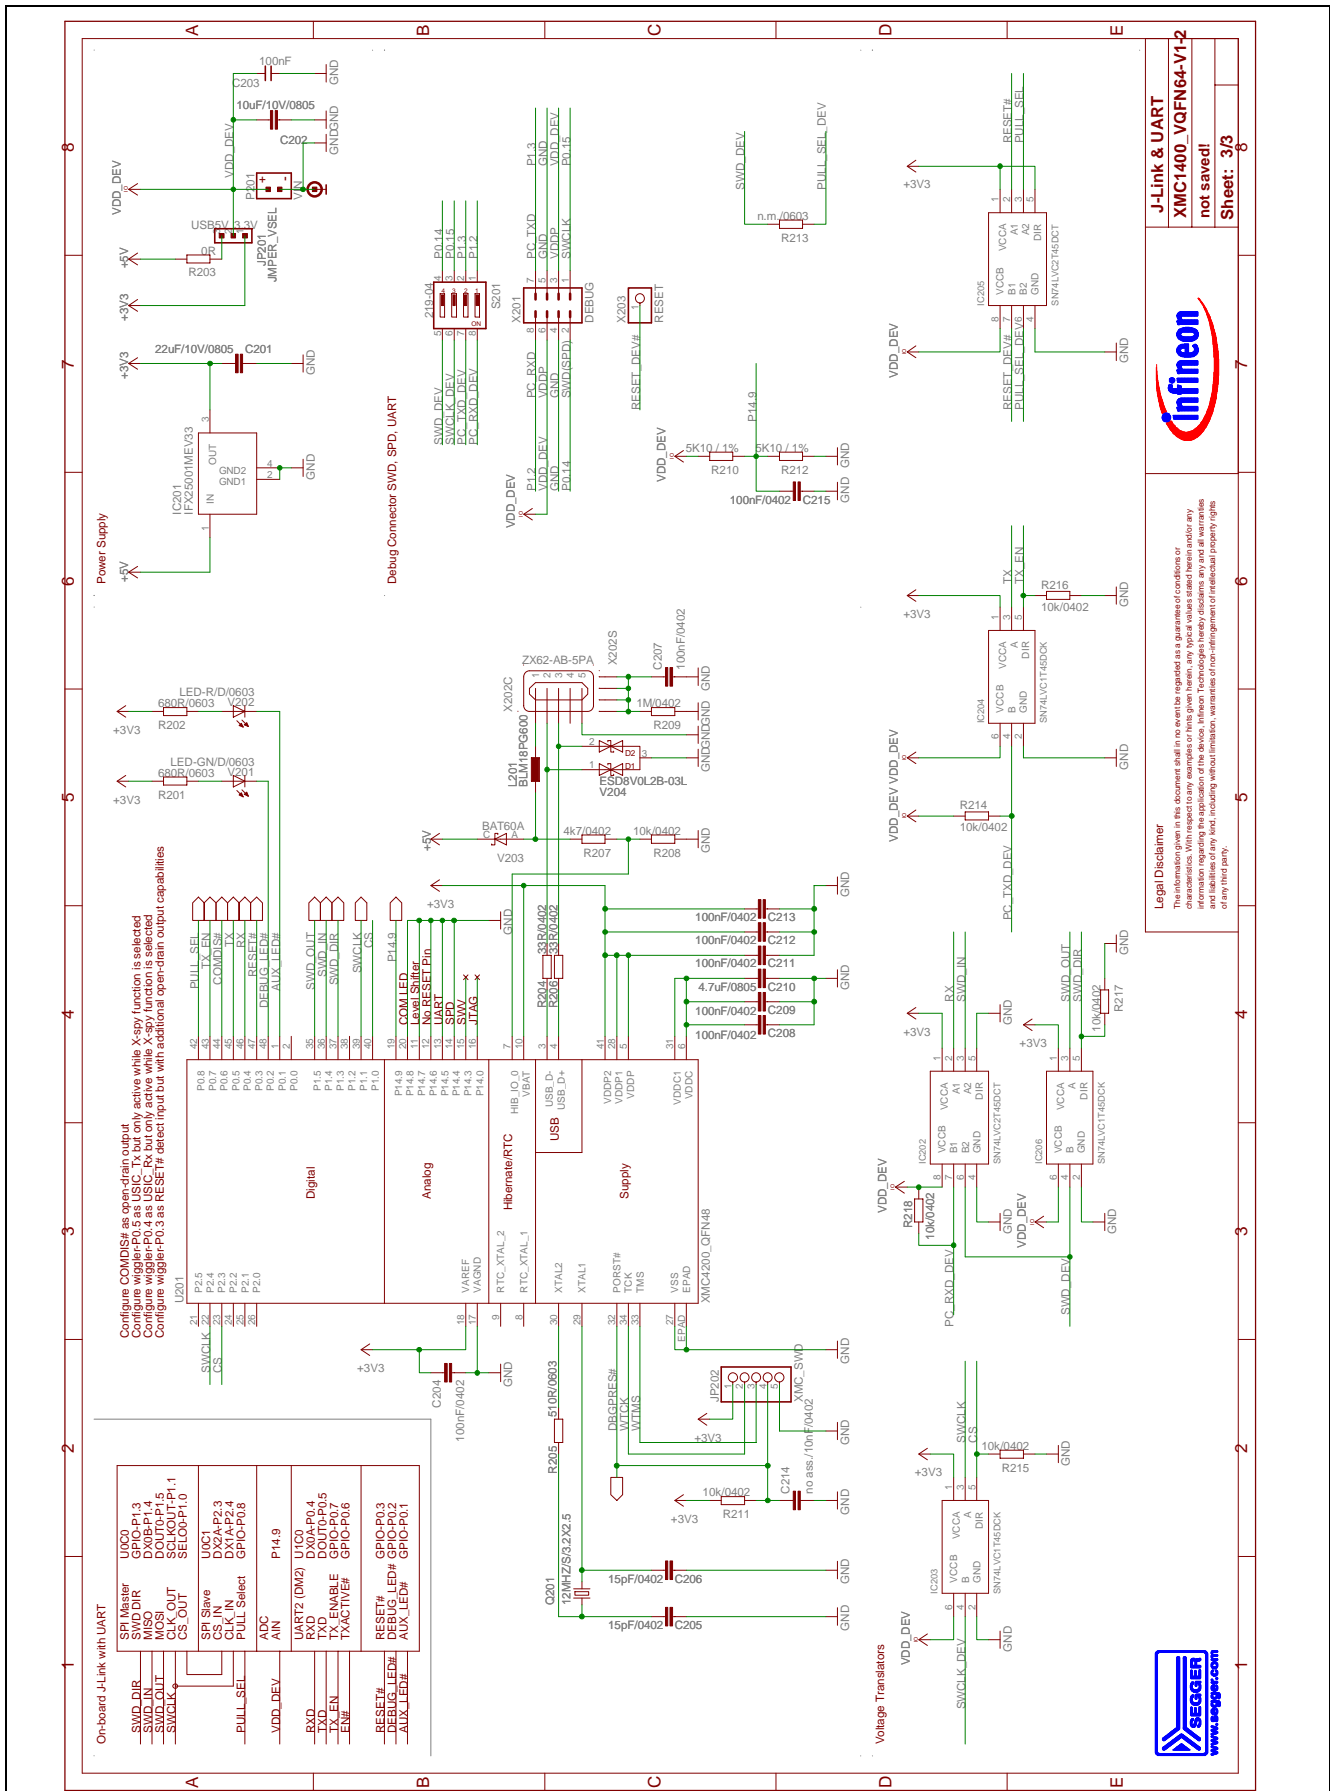

Figure 13 Schematic 2 of 2 XMC1400 Boot Kit
- Figure 13: On-board Debugger, Power Supply